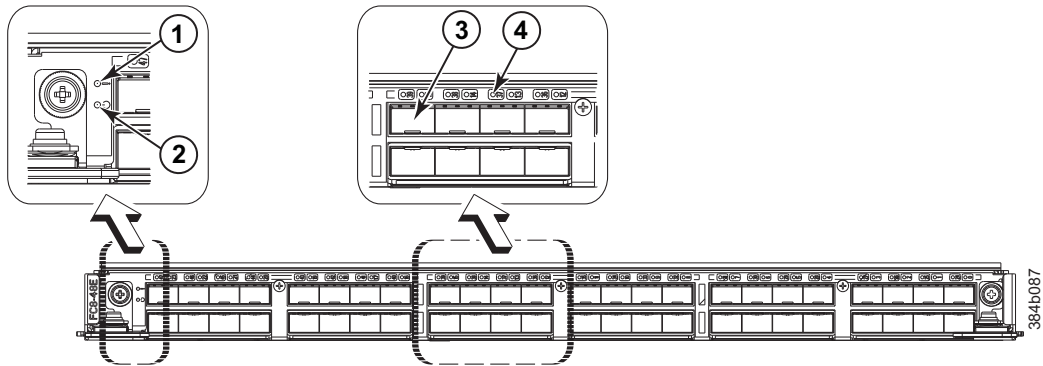

Figure 25. FC8-48E port blade
- Figure 25 on page 61 illustrates the FC8-48E port blade